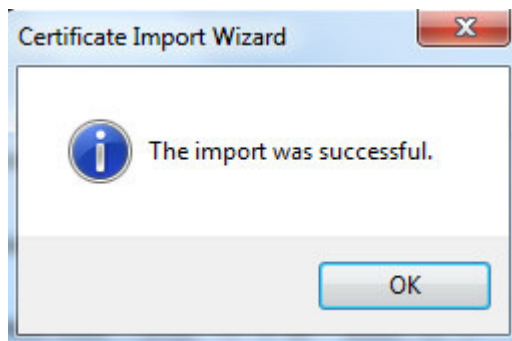

Figure 5-60
11. Click "Yes". It will pop out the dialog box of "Import Successful", click "Ok" to complete downloading certificate, which is shown in Figure 5-60.